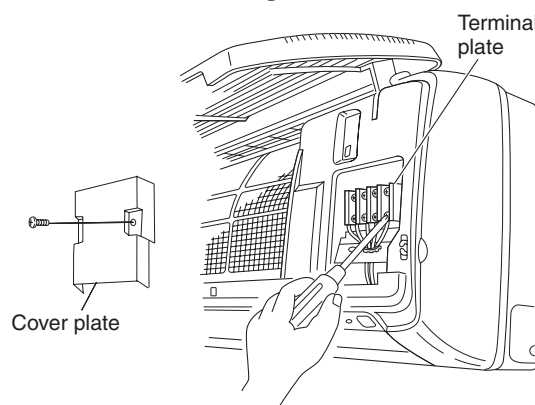

Fig. 1-44a
- (2) Route the inter-unit wiring from the back of the indoor unit and pull it toward the front for connection. (Figs. 1-44a and 1-44b)
- (3) Connect the inter-unit wiring to the corresponding terminals on the terminal plate (Figs. 1-44a and 1-44b) while referring to the wiring diagram.
- (4) Be sure to secure the wiring with the provided clamp.
- (1) Using a Phillips head screwdriver, remove the screw on the cover plate. (Figs. 1-44a and 1-44b)
- (2) Remove the cover plate.